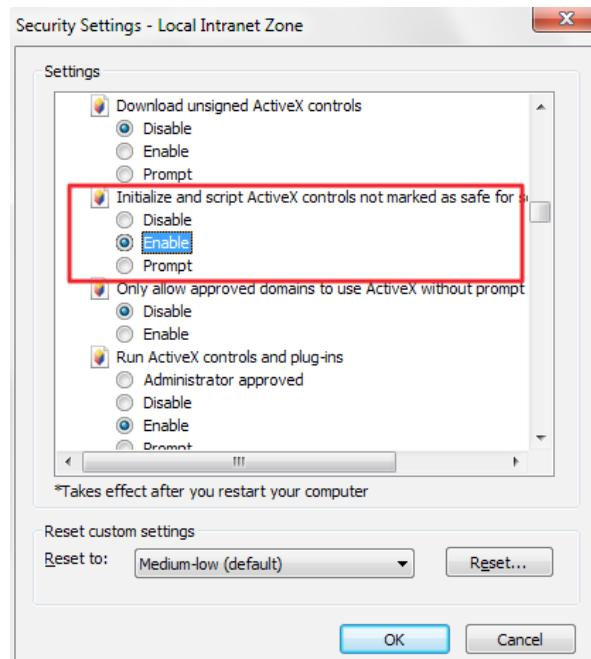

Figure 4-32 Enable for “Initialize and script ActiveX controls not marked as safe for scripting”
- » Similarly scroll up or down in the same window and set Enable for “Initialize and script ActiveX controls not marked as safe for scripting” as shown in Figure 4-32.